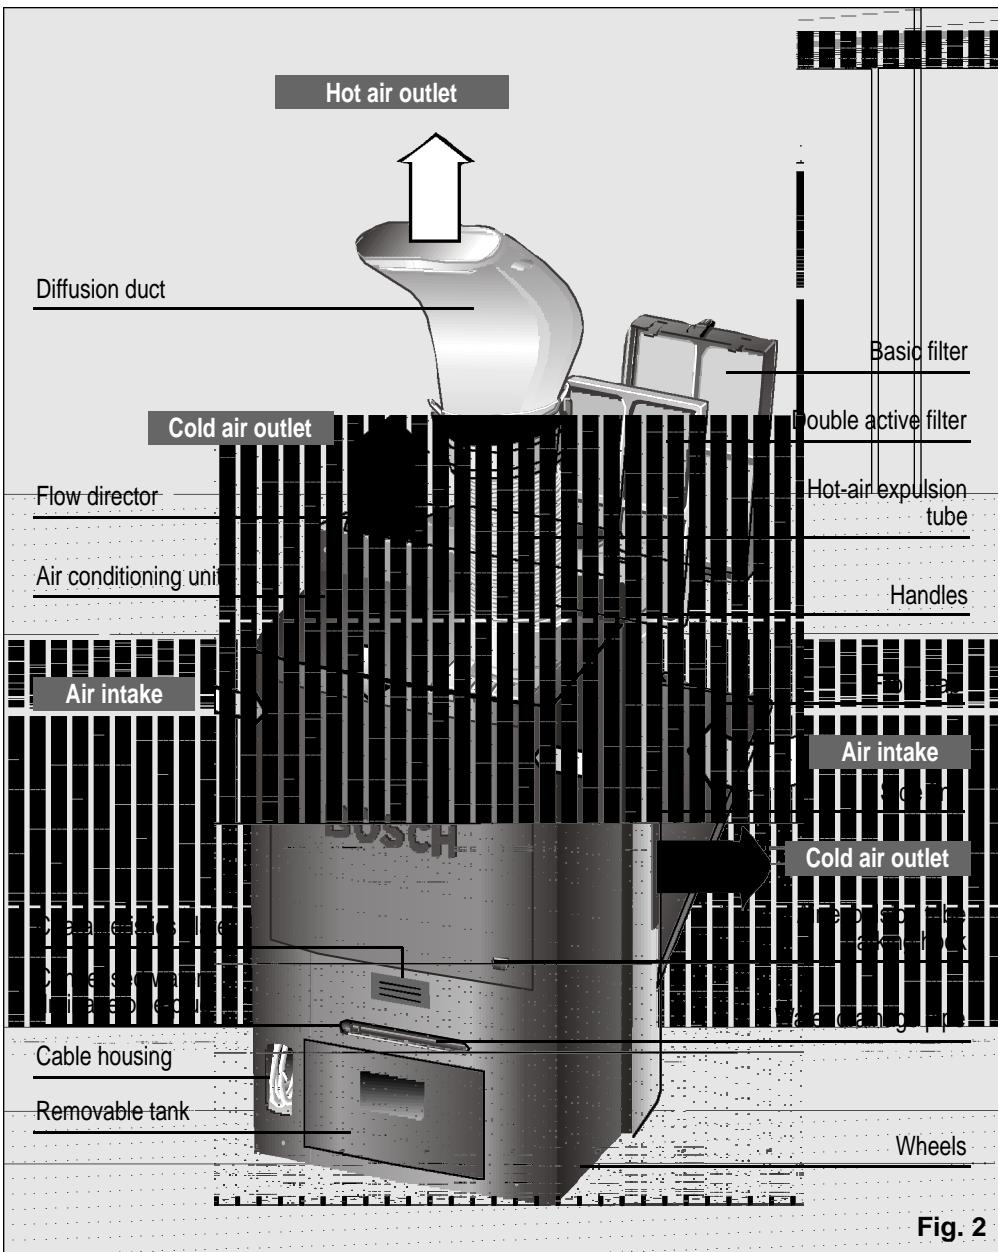

Fig. 2
- ❑ There is a cavity at the back of the appliance to house the mains electricity supply cable. See **Fig. 2**.